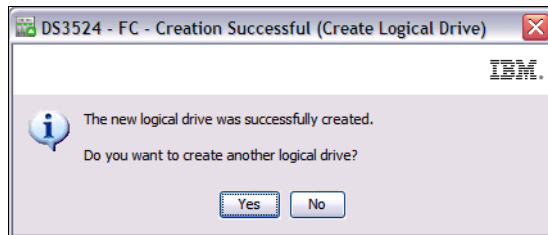

Figure 9-21 Create logical drive - Creation Successful
6. Click **Finish** and the Creation Successful window opens as shown in Figure 9-21. You are prompted with option to create another logical drive. Click **No** if you are finished creating logical drives or want to continue at a later time.